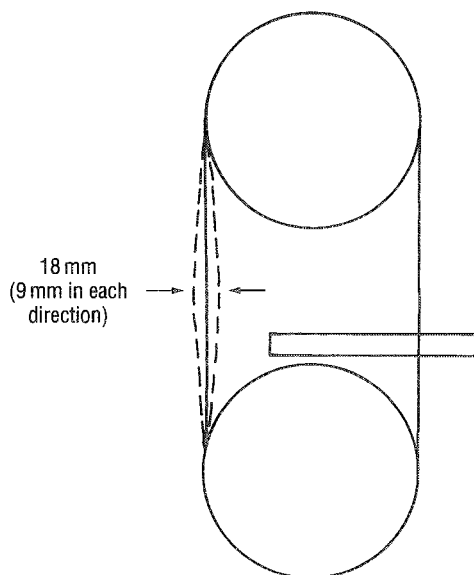

Fig. 2.16 Tension test (9 mm of movement).
2. *9 mm of movement.* Making sure that the guides and thrust wheels are clear of the blade apply pressure as indicated in **Fig. 2.16**. It is difficult to measure, but approximately 9 mm of movement should be possible in each direction.